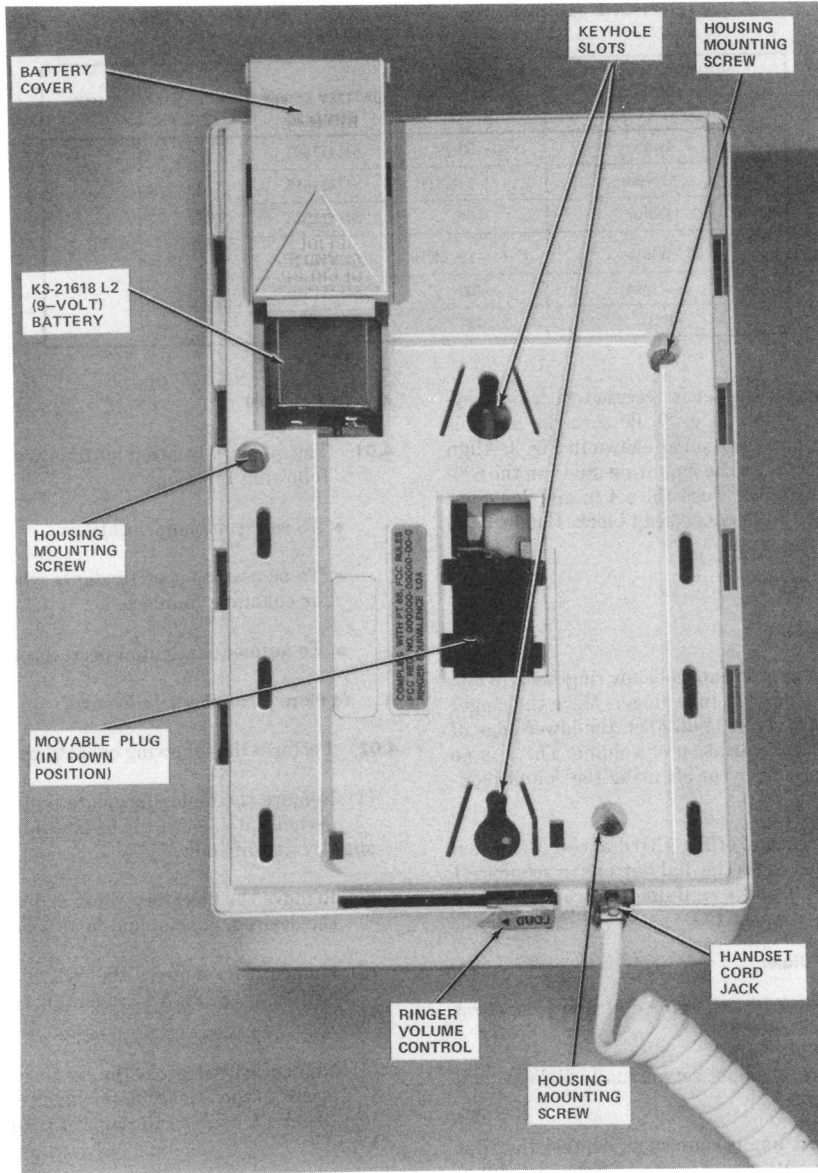

Fig. 3—5011T01A Telephone Set, Bottom View
**3.01** The telephone set is shipped with a 9-volt alkaline battery, to be connected at the time of installation. Remove the battery cover on the rear of the set and make the necessary connections. Place the battery in the battery compartment and close the cover (Fig. 3).
**3.03** The rear of the set is recessed with two keyhole type slots (Fig. 3). Be sure the movable plug is in the down position as shown in Fig. 3. Align the keyhole slots with the mounting studs on the 630-type connecting block. Push the set in and down engaging the set to the connecting block. Connect the handset cord to the set.
- (1) Dial the appropriate code for ring-back to test the telephone set tone ringer. Move the ringer volume control lever (Fig. 3) on the lower edge of the set to check variation of volume. There is no provision for ringer cut off using the volume control.
- (2) Call the central office (CO) dial test line, when connected press the dial buttons in sequence 1 through 9, \*, 0, and # verifying that correct signal is returned from the CO.